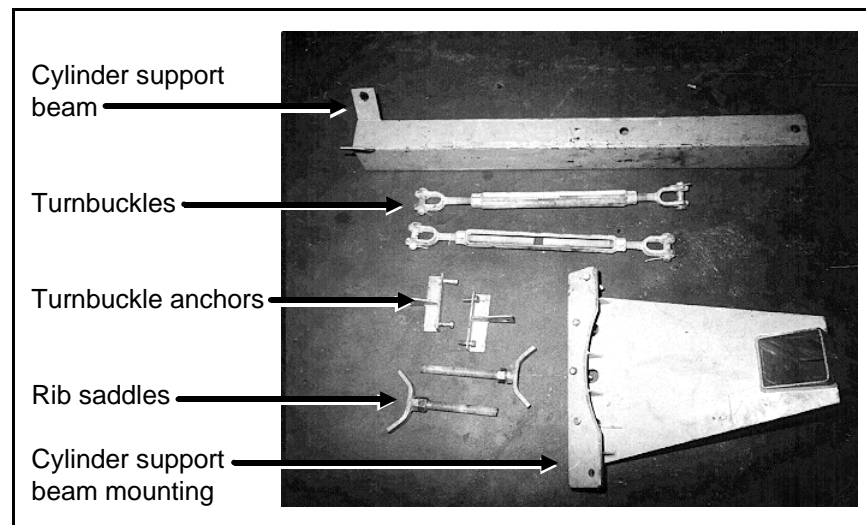

FIGURE 2 (MSSMA403AE)
1. Identify the components of this fixture as shown in FIGURE 2.